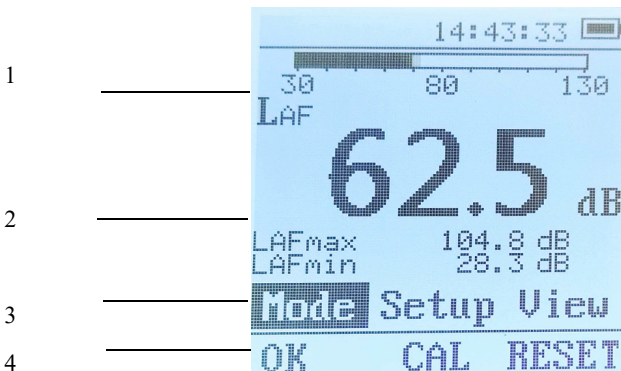

Figure 6
- b) Press and hold the power button to power on and access the main interface, as shown in Figure 6.